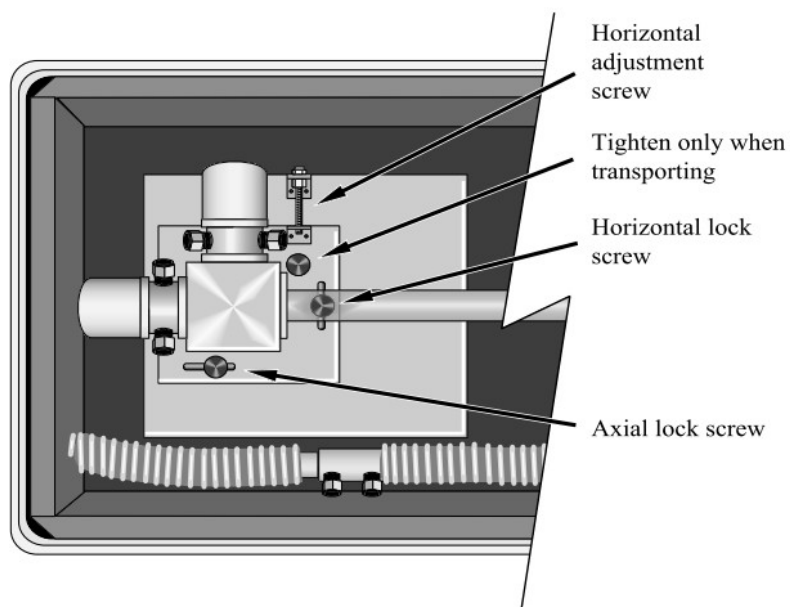

FIGURE B-2. Alignment hardware of detector end of TGA100 and TGA100A
1. Loosen the transport lock screw and axial lock screw at the detector end (refer to FIGURE B-2). These screws should both be loose during all periods of operation to allow the detector end to move slightly as the length of the long sample cell changes with temperature.
FIGURE B-2 shows the horizontal adjustment screw that was included with older units. Newer units use a fine-pitch horizontal adjustment screw at the laser end which makes horizontal adjustment at the detector end unnecessary.